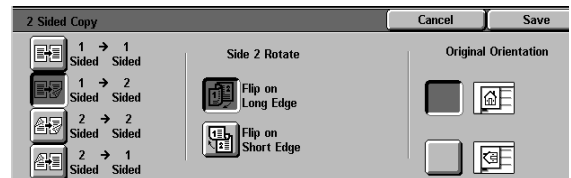

Figure 4: 1 to 2 Sided Copying option
- **1 to 2 Sided** icon for two-sided copies from one-sided input, as illustrated in Figure 4.